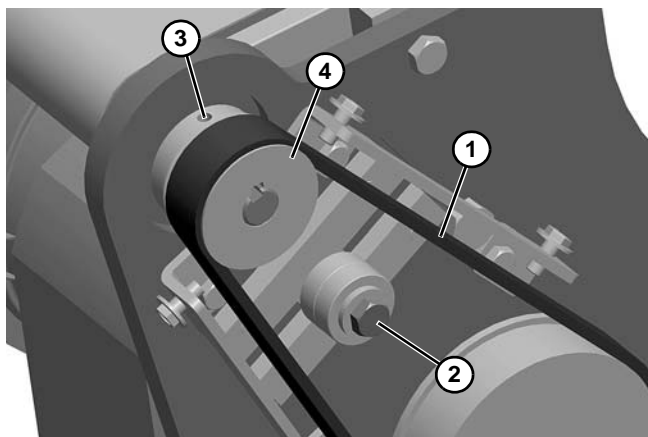

Figure 9
3. Remove tension on timing belt (**Figure 9, item 1**) by loosening tensioner screw (**Figure 9, item 2**).
4. Loosen set screw (**Figure 9, item 3**) on driven pulley (**Figure 9, item 4**). Remove driven pulley and timing belt.